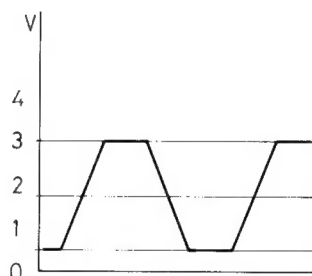
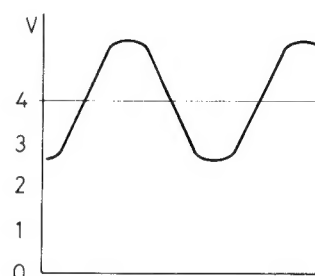

Fig. 6
Fig. 7
- 1) The voltage wave mode as shown in Fig. 6 appears on the output terminal of the Hall IC.
- 2) The wave (Fig. 6) is amplified by the transistor X901 and the bias voltage as shown in Fig. 7 is applied to the X902.